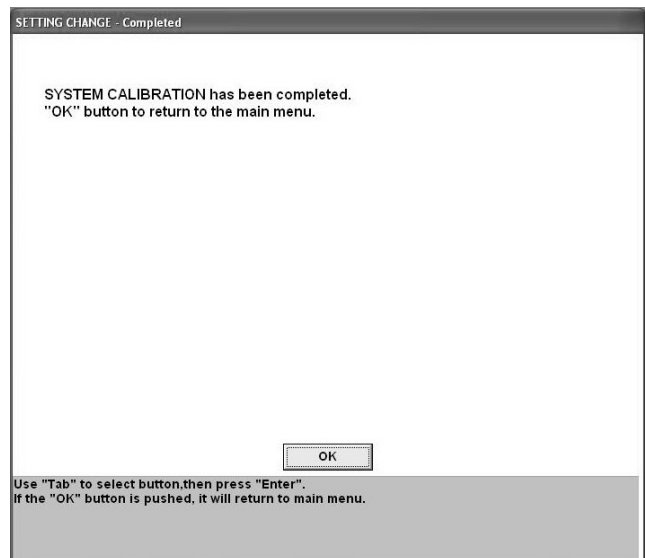

Fig.105
4. Clicking the "OK" button after all the lever positions have been registered displays the following window (Fig.105):
Clicking the “OK” button registers the full tilt down position and redisplay the SETTING CHANGE completed window. (Fig.105)